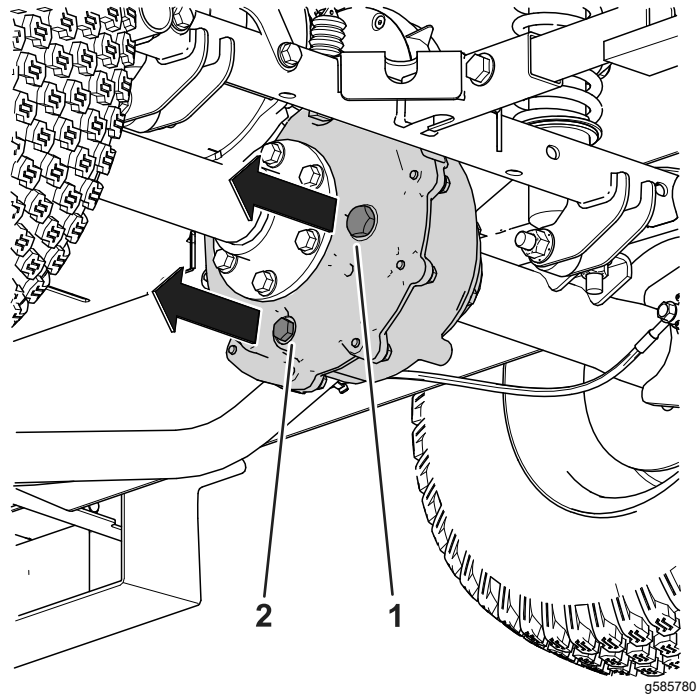

Figure 54
1. Align a drain pan under the transaxle plug (Figure 54).
2. Remove the fill plug (Figure 54).